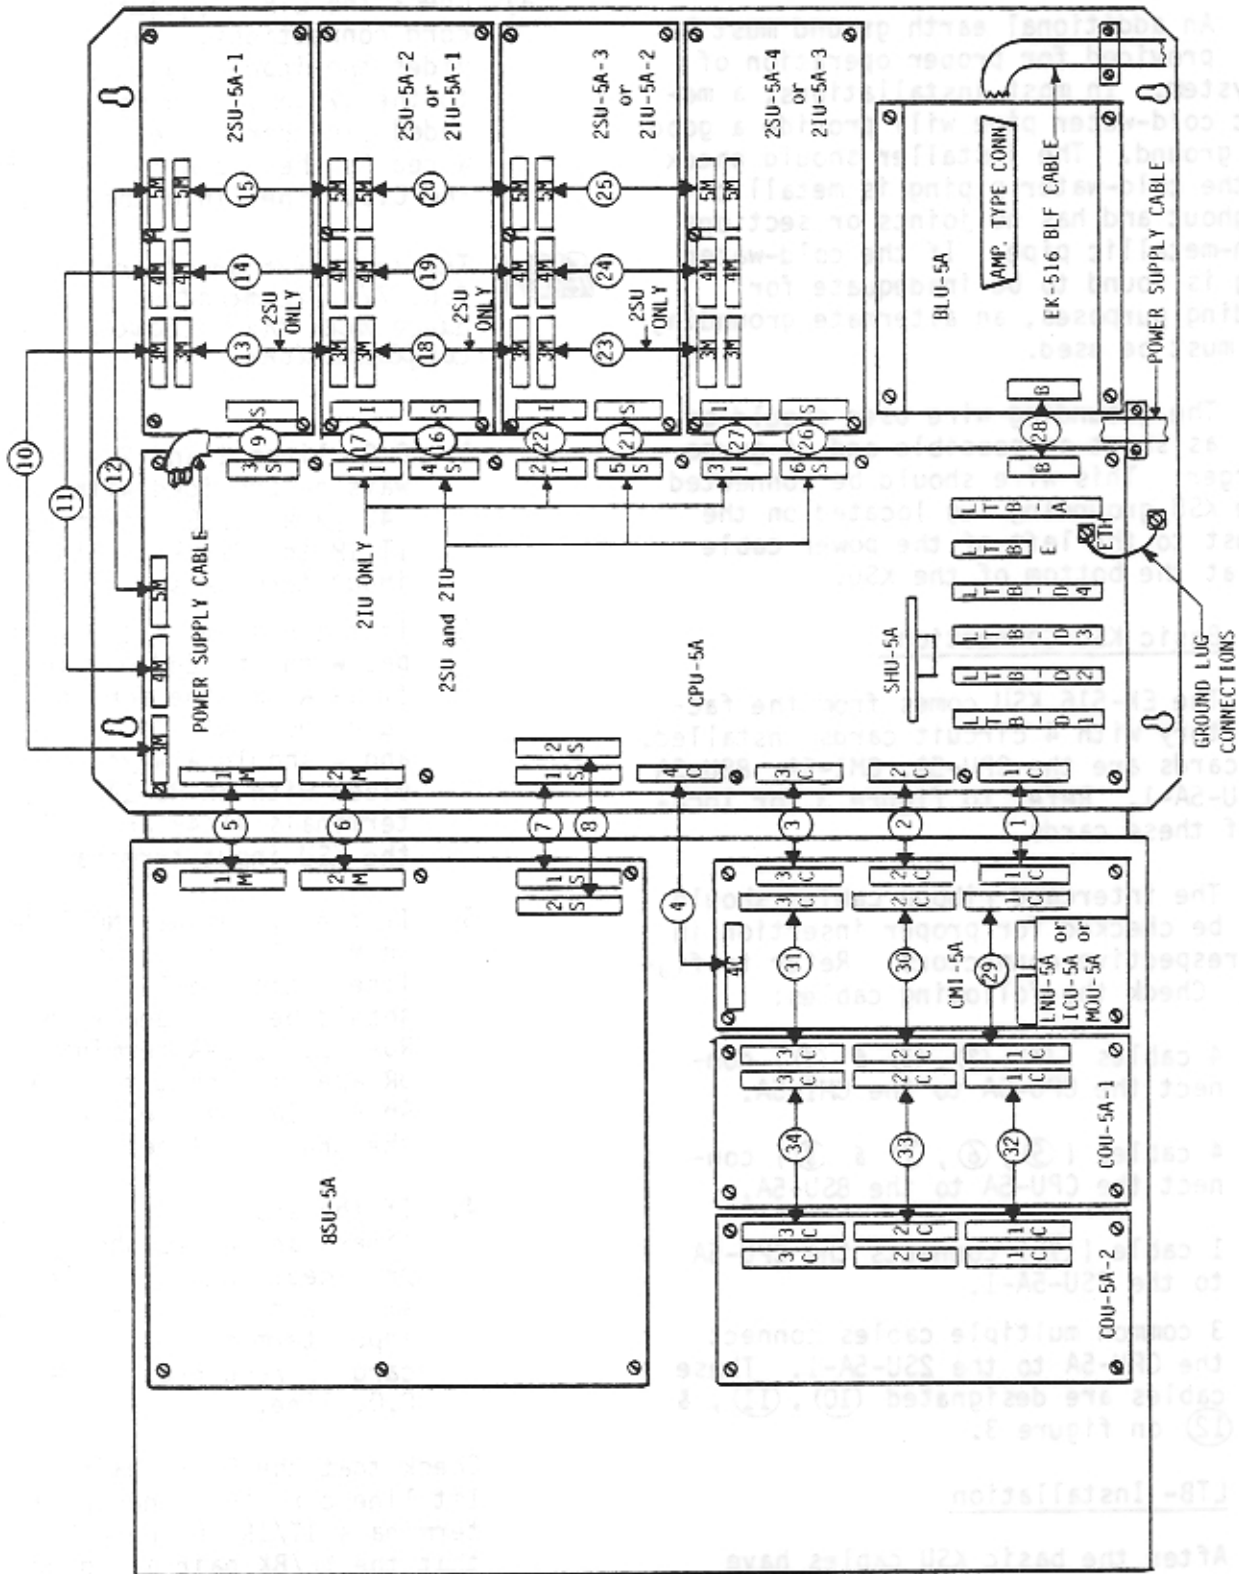

Figure 3 - TIE EK-516 Key Service Unit Card Layout
6.18 The EK-516 KSU comes from the factory with 4 circuit cards installed. These cards are the CPU-5A, CMI-5A, 8SU-5A and 2SU-5A-1. Refer to figure 3 for location of these cards.
6.19 The intercard ribbon cables should be checked for proper insertion in their respective connectors. Refer to figure 3. Check the following cables:
- a) 4 cables (①, ②, ③ & ④) connect the CPU-5A to the CMI-5A.
- b) 4 cables (⑤, ⑥, ⑦ & ⑧) connect the CPU-5A to the 8SU-5A.
- c) 1 cable (⑨) connects the CPU-5A to the 2SU-5A-1.
- d) 3 common multiple cables connect the CPU-5A to the 2SU-5A-1. These cables are designated ⑩, ⑪, & ⑫ on figure 3.